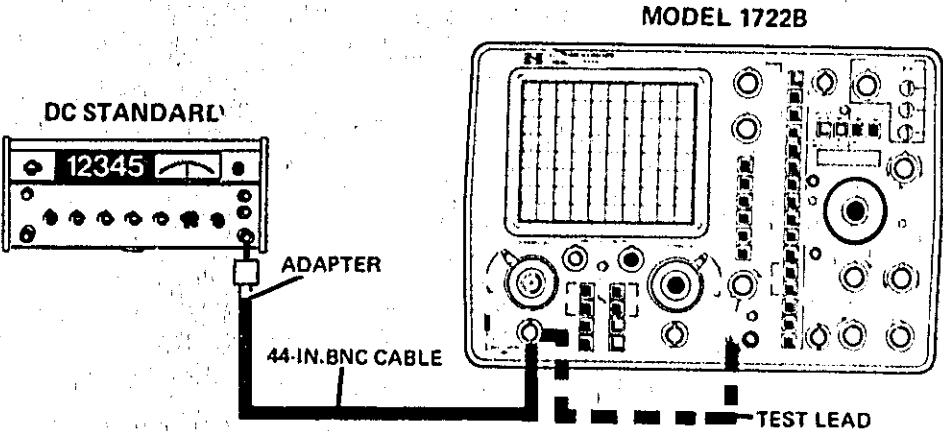

Figure 5-2 Calibrator Accuracy Test Setup
- a. Connect equipment as shown in figure 5-2.